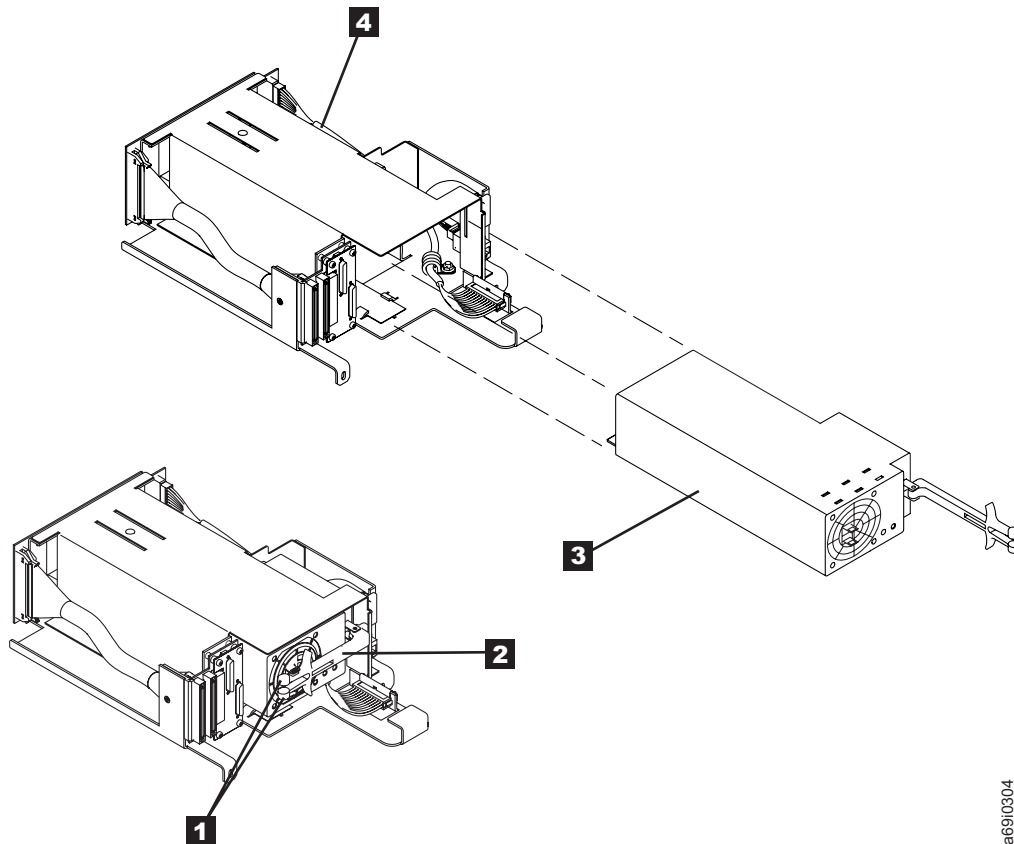

Figure 70. Removing or Replacing a Redundant Power Supply - Models L32 or D32 Hot Swap
2. Use your thumb and index finger to pinch together the locking arms (see **1** in Figure 70) of the power supply.
7. Carefully slide the power supply canister (**3** in Figure 70) into the fixed tray assembly **4** .